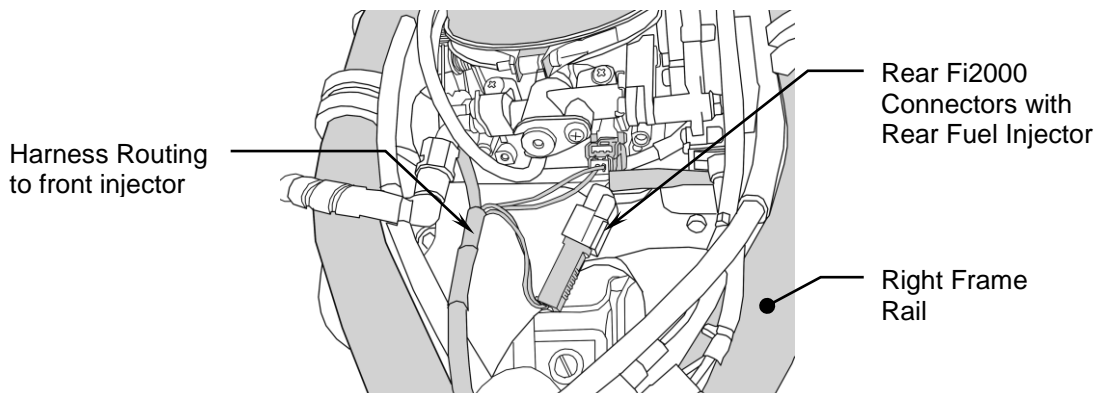

FIGURE 3
5. Locate the rear injector connector on the throttle body housing disconnect it and mate the corresponding male connector from the rear portion of the Fi2000 harness to it, see Figure 3. Mate the Female Fi2000 connector onto the injector. When finished, make sure the wire harness does not foul any throttle cable linkage. Install one 8" zip tie to secure the harness as shown in Figure 1.